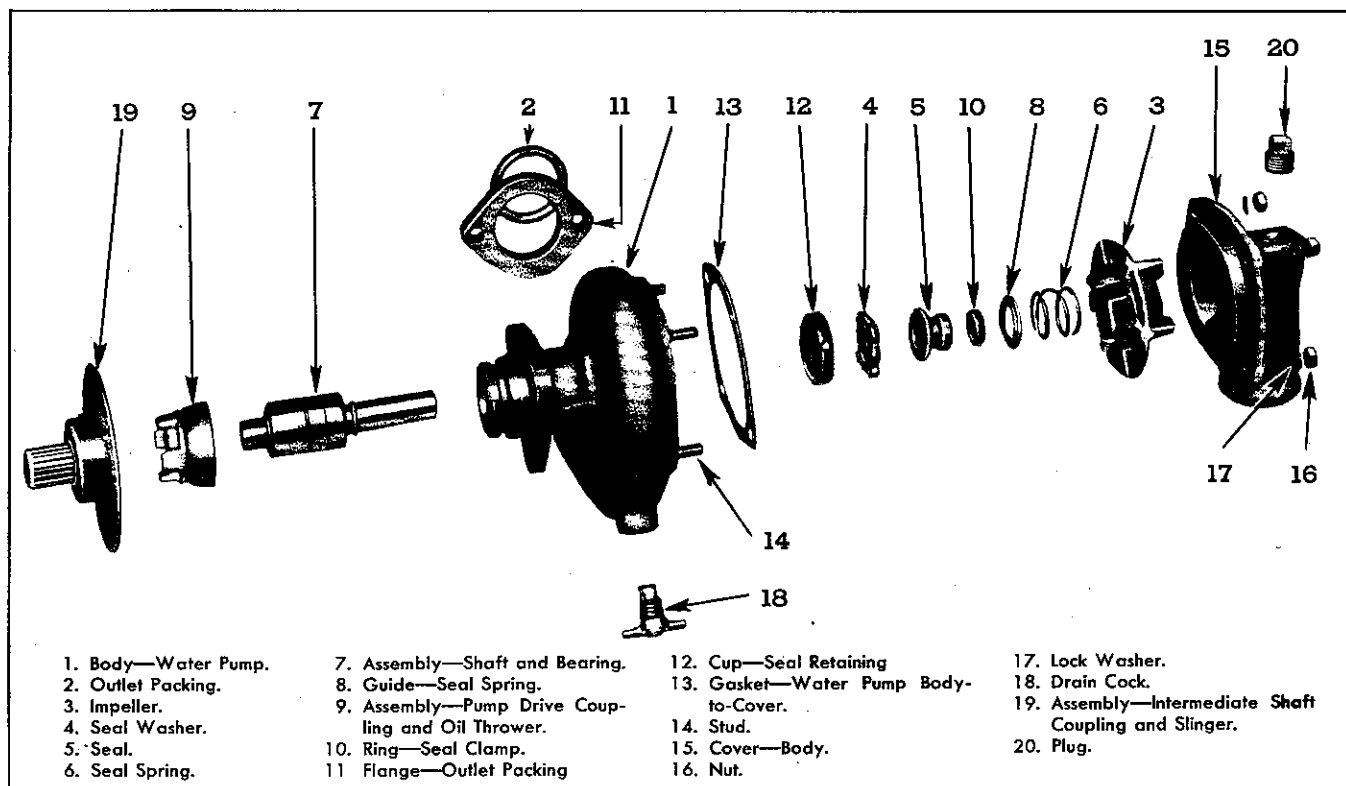

Fig. 8—Water Pump Details and Relative Location of Parts.
Before starting the pump assembly, study Fig. 8, which shows the relative location of all parts in the pump, and then carry out the assembly as follows:
2. Refer to Fig. 8 and assemble spring guide (8), seal (5), clamp ring (10), and seal washer (4) together. Insert spring (6) into impeller hub (3);
1. See that water pump coupling and thrower assembly—item (4), Fig. 8, Sec. 14—is locked in
- place with a  $\frac{3}{16}$ " Allen screw (3) in end of blower shaft.
- Slip water outlet packing flange (11), Fig. 8, over pump outlet, with flat machined face away from pump body. Slip packing (2) over outlet next to flange.